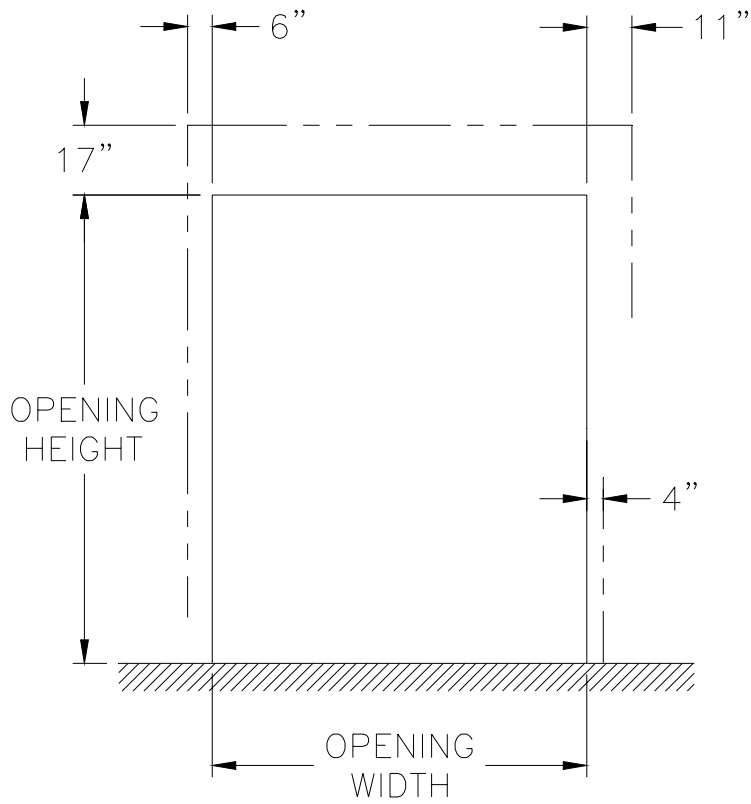

FIG. 4A
- Motor mounted on Right Side shown in Figures 4a and 4b.